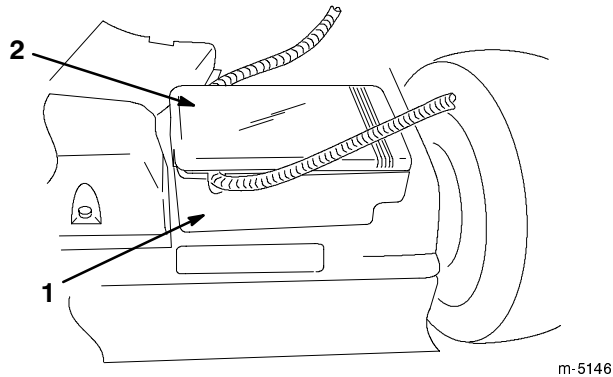

Figure 5
1. Remove the battery box cover (Fig. 5).